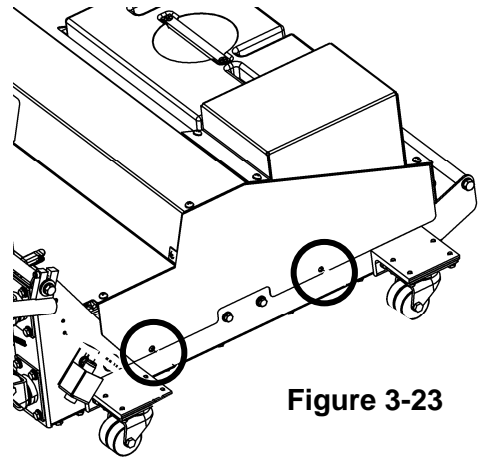

Figure 3-23
1. Remove the two screws on each side of the hood, as shown in Figure 3-23, and lift the hood off the frame. Set aside the screws.